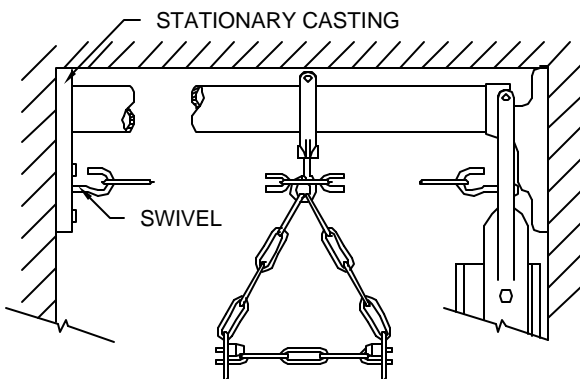

Fig. 2-3
3. Attach the pipe to the closing and stationary castings with the swivels inserted through the castings (Fig. 2-3). Secure the stationary casting to the jamb.